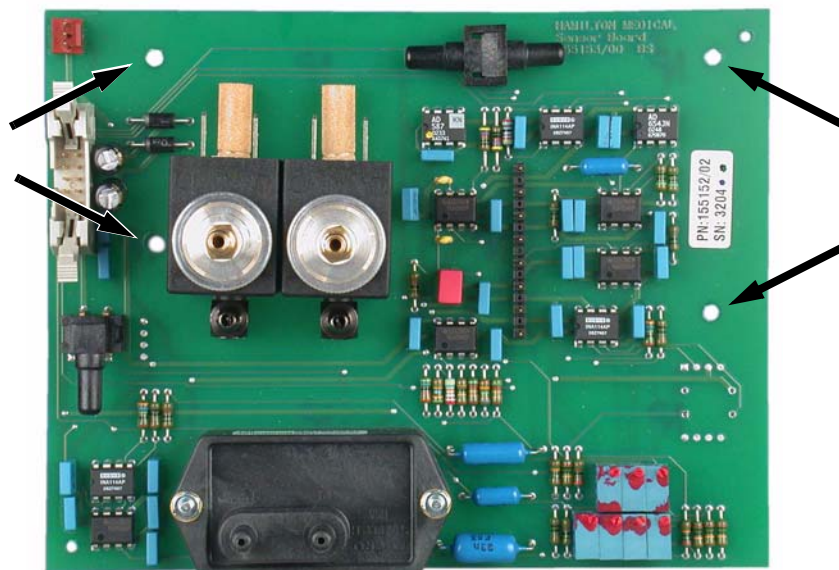

Figure 11-220. Position of screws on sensor board
5. Remove the four hexagonal-drive (Allen) screws securing the sensor board. This is a little difficult to do, as it is not possible to see the upper right-hand screw. (Figure 11-220.)